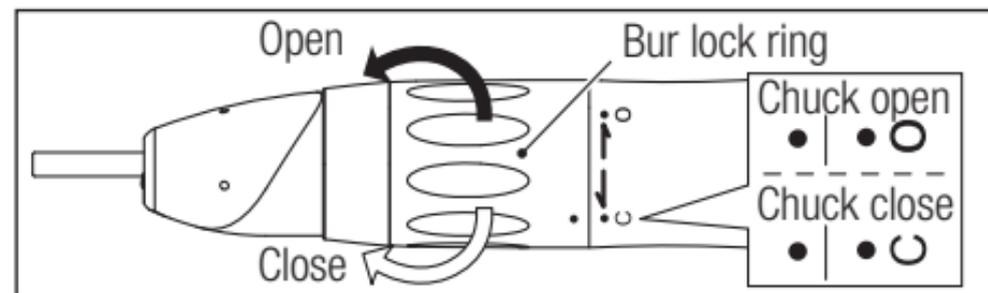
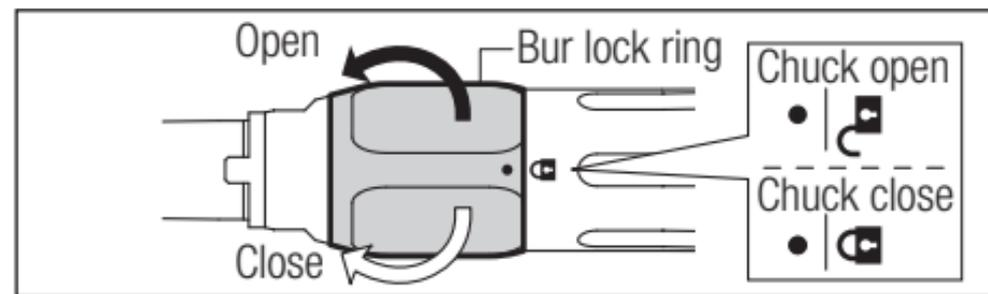

Fig. 2
Fig. 3
- 1 Turn the bur lock ring in the direction of the “” or “O” mark until it clicks. (Fig. 2 or Fig. 3)
- 2 Insert the bur fully into the chuck then turn the bur lock ring in the direction of the “” or “C” mark until the “” or “C” mark and the “•” mark align with a click. (Fig. 2 or Fig. 3)
Turn the bur lock ring in the direction of the “” or “O” mark until it clicks then remove the bur. (Fig. 2 or Fig. 3)
- 1 Turn the bur lock ring in the direction of the " O " mark until it clicks. (Fig. 2)
- 4 Insert the bur fully into the chuck then turn the bur lock ring in the direction of the " C " mark until the " C " and the " ● " mark align with a click. (Fig. 2)
Turn the bur lock ring in the direction of the " O " mark until it clicks then remove the bur. (Fig. 2)